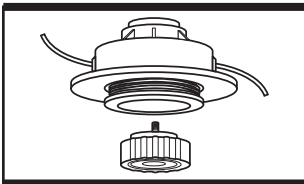

Fig. 18b
5. To replace the spool simply remove from the trimmer head (B5) and replace with a new one of the same type. (See Fig. 18b)